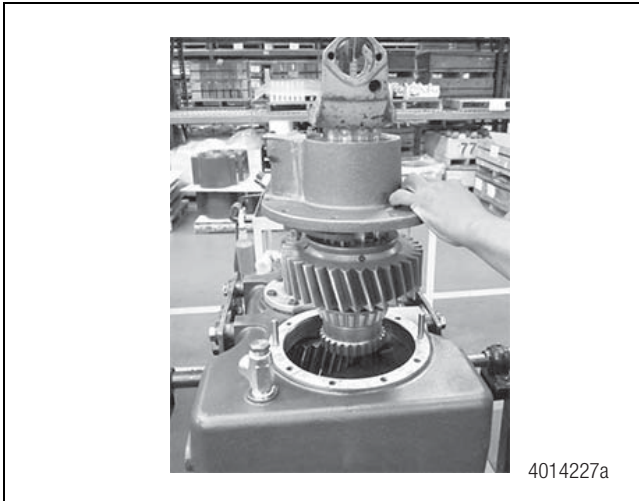

Figure 6.38
7. Position a new gasket on the TC housing and lower the rear output shaft assembly into place. Figure 6.38.